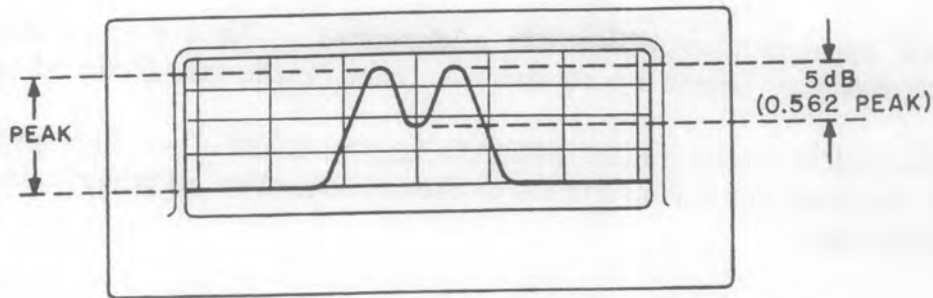

Figure 4-2. Typical Response, Signal Monitor Resolution Test
- (8) Increase the output frequency until the pip is centered behind the third graticule mark to the right of the center mark. Record the frequency counter indication.
- (9) Subtract the frequency recorded in step 7 from the frequency recorded in step 8 to determine the maximum sweep width. The frequency difference should be in the range of 3.0 MHz to 3.3 MHz.
- (10) To verify the proper sweep linearity, the frequency recorded in step 7 should be in the range of 19.750 MHz to 20.050 MHz; in step 8 it should be in the range of 22.750 MHz to 23.050 MHz.
- (11) Turn the signal monitor GAIN control maximum counterclockwise. Turn the MARKERS switch ON.
- (12) Use the CENTER FREQ control to align the marker pip behind the middle graticule mark.
- (13) Use the SWEEP WIDTH control to expand the base of the marker pip until it is two divisions wide.
- (14) Rotate the signal monitor GAIN control clockwise until the signal generator pip is the same height as the center marker pip. Turn the marker off and then on again to observe the two heights.
- (15) Adjust the signal generator frequency for a zero beat with the center signal monitor marker.
- (16) The indication on the frequency counter at zero beat should be 21.4 MHz \pm 3 kHz. This assures that the marker oscillator frequency is within tolerance. Record the frequency for use in steps 17, 18, and 20.
- (17) Tune the signal generator to each of the two 100 kHz markers (21.3 and 21.5 MHz), carefully zero-beating with each marker. They should be at 100 kHz \pm 200 Hz of the center frequency marker recorded in step 16.
- (18) With the 21.4 MHz marker, two divisions wide at the base, tune the signal generator frequency until the dip between the 21.4 MHz marker and the signal generator signal is 0.5 of the peak signals as shown in Figure 4-2.
- (19) Record the frequency counter indication.
- (20) Subtract the frequency recorded in step 16 and the frequency recorded in step 18. This difference should be less than 10 kHz to